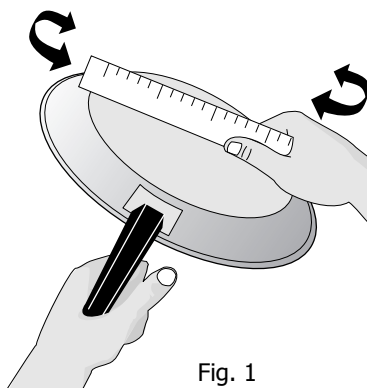

Fig. 1
4. Assemble one connector arm at a time. With the oven door open and the oven rack in place, install one end of the connector arm to the hole in the **door connector bracket** (Fig. 1) and the other end in the hole in the **rack connector bracket** (Fig. 2 and as in Fig. 3). The oven rack may need to be adjusted in or out in the rack position to match the length of the connector arm.
For best cooking results, cookware should have flat bottoms that rest level on the burner grate. Before using cookware, check for flatness by rotating a ruler across the bottom of the cookware (Fig. 1).